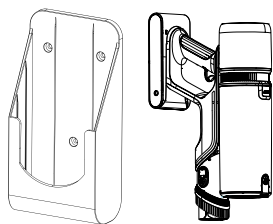

Fig. 1
STEP 6: Once the wall mount fixed into place, place the vacuum cleaner into position ensuring the battery pack has been slotted in. See **Fig. 1**.